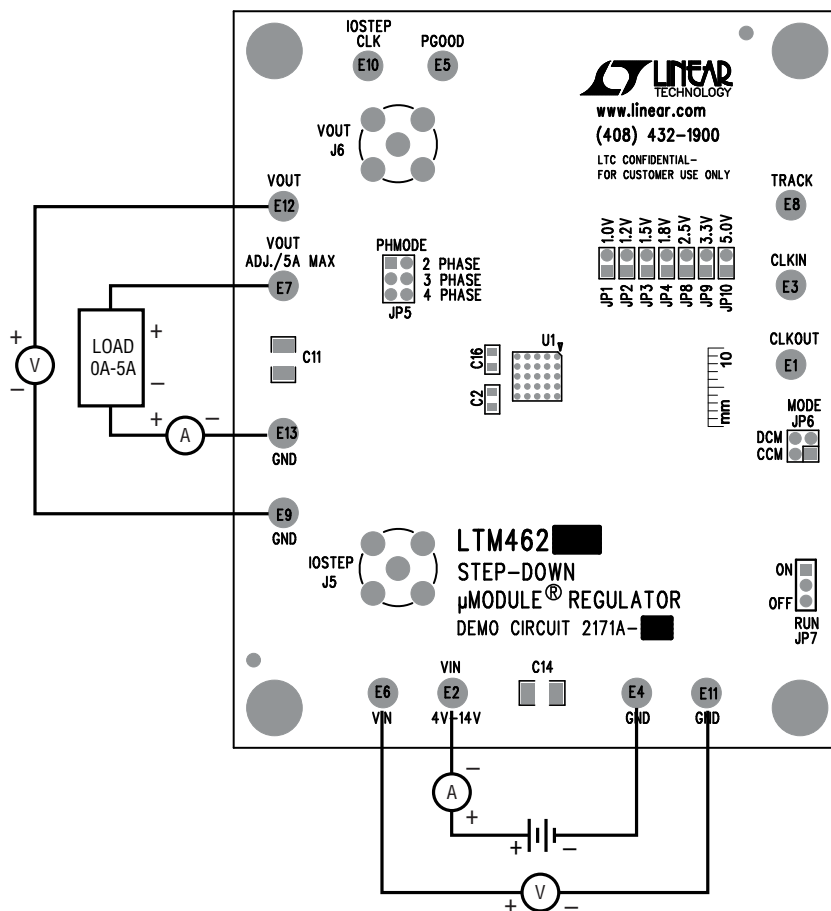

Figure 1. Test Setup
Demonstration circuit 2171A-B is an easy way to evaluate the performance of the LTM4625EY. Please refer to Figure 1 for test setup connections and follow the procedure below.
3. With power off, connect the load, input voltage supply and meters as shown in Figure 1.